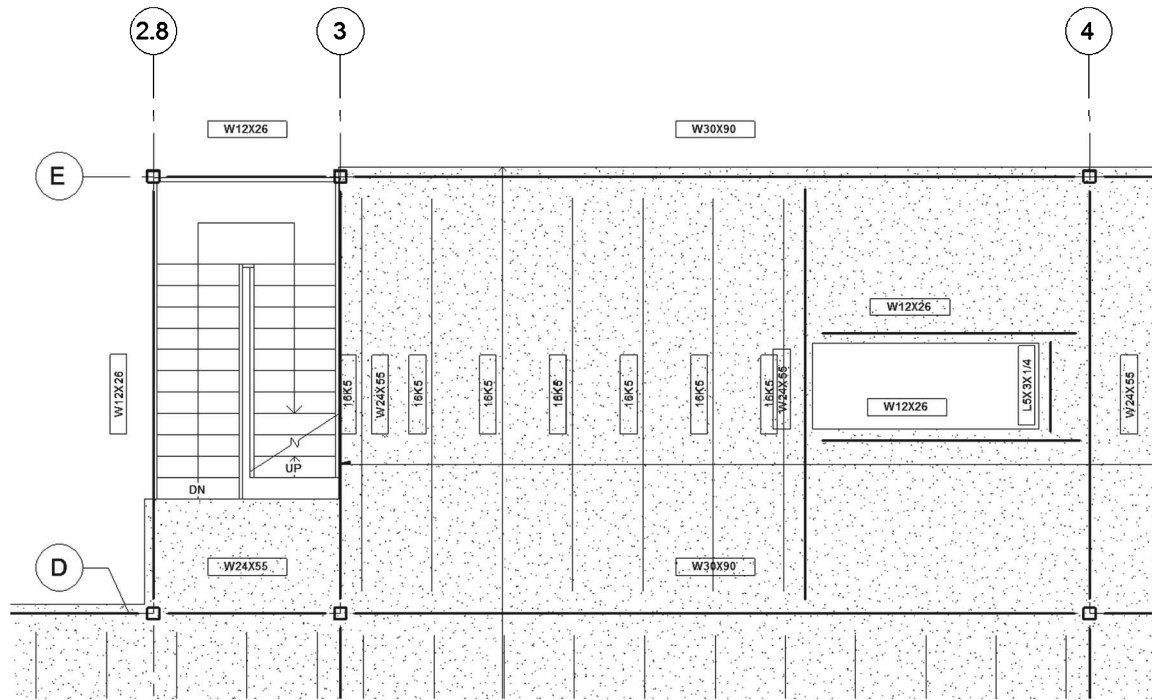

FIGURE 8-4.17 Beam System completed using the manual sketch technique
41. Pick the other three beams to define the bay (Figure 8-4.17).
The *Beam System* is now placed as desired in your Building Information Model (BIM), as you can see in Figure 8-4.17. You now only have two small areas to the East in which to place joists and Level 2 is then complete.